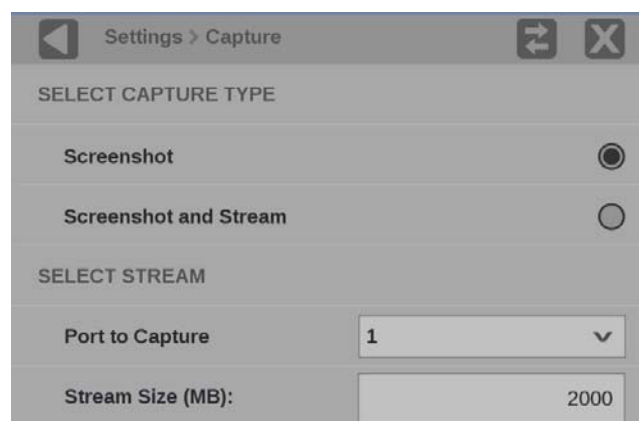

Figure 79: Selecting Screenshot
2. Select **Screenshot** under SELECT CAPTURE TYPE. (See Figure 79.)